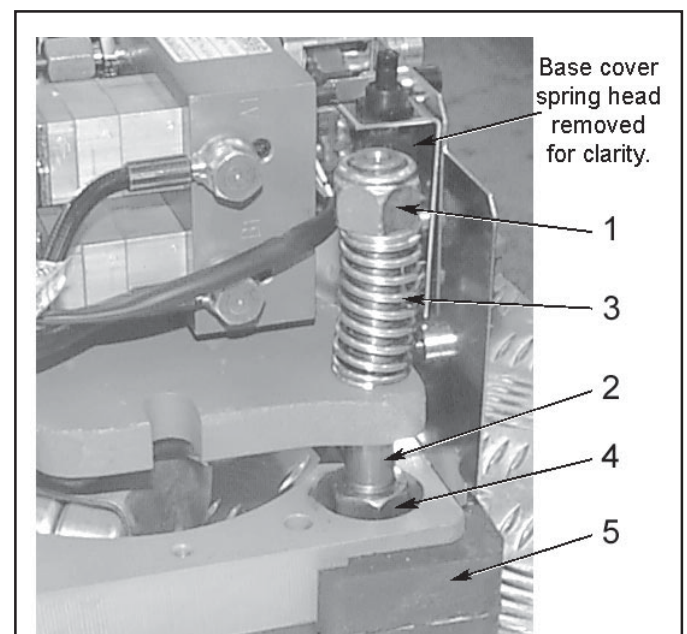

Fig. 24 Base feet detail
- (a) Turn the Nyloc nut (1, Fig.24) down sufficiently to add and lock another nut onto it.
- (b) Loosen the nut (4, Fig.24) securing the corner guide pin (2, Fig.24) to the base.
- (c) Loosen and remove the guide pin from the foot (5, Fig.24).
- (b) Position the foot on the base plate and secure it using corner guide pin, nut and spring washer (spring 3, Fig.24 should still be on guide pin).
- (c) Remove the lock nut placed at stage (i) section 6.46 and turn Nyloc nut (item 1, Fig. 24) up until it is flush with the top of the guide pin (item 2, Fig. 24) as shown in Fig. 24.